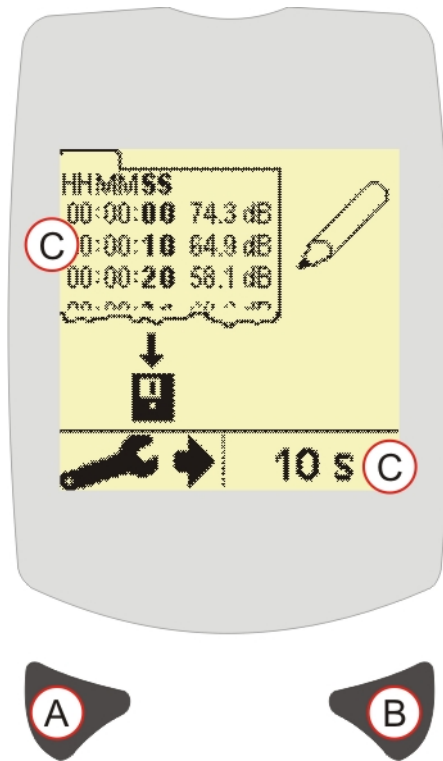

Figure 8 Logging Interval Screen – CEL-246 only
In Figure 8 (C), the currently selected logging interval is displayed and is also shown above the Right key (B). Press the Right key (B) to change the logging interval. Press Left key (A) to exit the settings menu and return to the measurement screen.